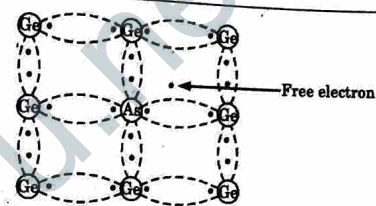

Fig. 3.12.1. Arsenic electron as free electron (donor).
2. Fig. 3.12.1 shows the arsenic (As) atom fits in germanium (Ge) crystal in such a way that its four valence electrons form covalent bond with four germanium atom.